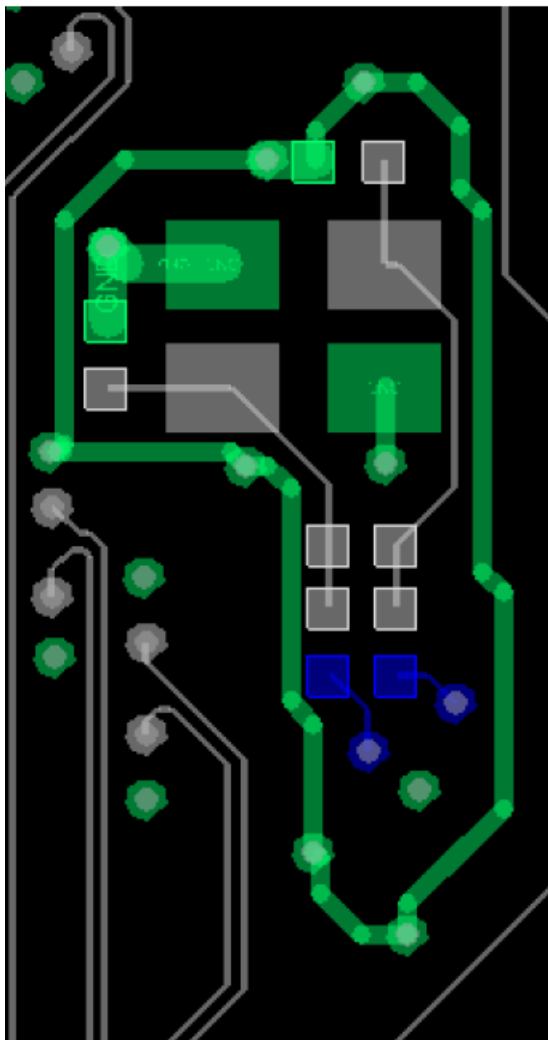

Figure 1. Crystal Components with GND Shield Trace
2. Add a GND shield between any high-speed I/O (HSIO) and any components or routing connected to X1 and X2 is advised. See below figure 1. for an example layout. The surrounding GND shield trace shown is 10 mils wide.
Figure 1 shows the layout top layer, but the same principal applies any other layer. Routing X1, X2 on inner layers with solid GND fills on outer layers would provide the greatest protection from external noise coupling. Of course, be aware that the GND planes over the traces are a source of parasitic capacitance, so size the crystal load caps accordingly.